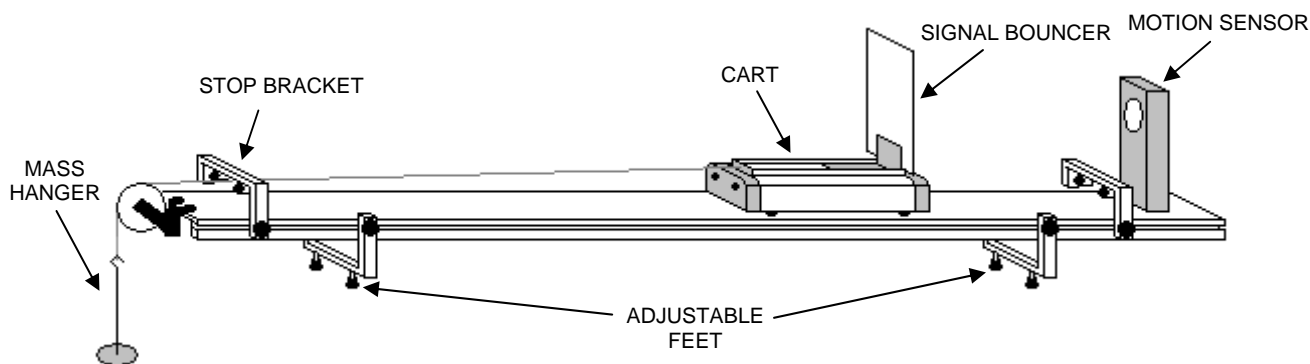

FIGURE 4 - Track Set-up (NOT DRAWN TO SCALE)
D) Move the adjustable feet brackets so that one is about 15 cm from the end with the motion sensor. Next, get a level at the front of the lab room and level the track. There are adjustable feet that you can rotate to raise or lower the track. See **Figure 4 below**.
E) Attach the signal bouncer to the cart by loosening and tightening the bracket on the cart. There are screwdrivers at the front of the lab. Place the cart on the track about 50 cm from the motion sensor. *This will always be the starting position of the cart.* There should be a string attached to the cart via a paperclip. Have the string slung over the pulley with the other end attached to the mass hanger. See **Figure 4**. Also make sure that the string goes UNDER the stop bracket. Once you have done all this the cart will want to move but you should hold it in place.